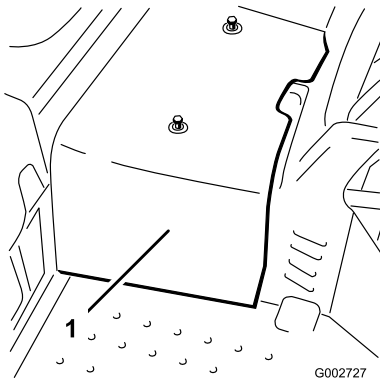

Figure 48
2. Loosen the 2 screws securing the center shroud to the machine and remove the shroud (Figure 48).